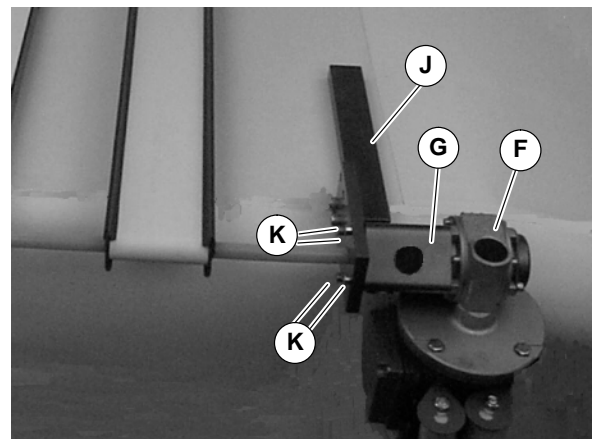

Figure 29
11. Attach gearmotor support assembly (J of Figure 29) and guard tube (G) to gearmotor assembly (F). Tighten screws (K) to 103 in-lb (12 Nm).